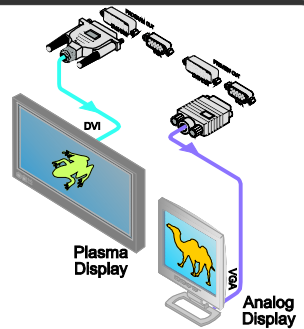

Figure 10: Example showing the use of the PREVIEW and PROGRAM Output
- See how the scaled output will look before displaying live during a presentation. As the example in Figure 10 illustrates, after seeing how the RGB source looks when scaled to HDMI, it can be interchanged with the YUV source, seamlessly, using an elaborate (in this case chessboard) transition effect
- The Swap² mode (shown in Figure 10), in which the PREVIEW input buttons and the PROGRAM input buttons switch places after pressing the TAKE button. For example, in Figure 10 the PROGRAM input button 3 would switch to 2 and the PREVIEW input button 2 would switch to 3, so the RGBS source is displayed on the PROGRAM screen and the Component source is displayed on the PREVIEW screen.